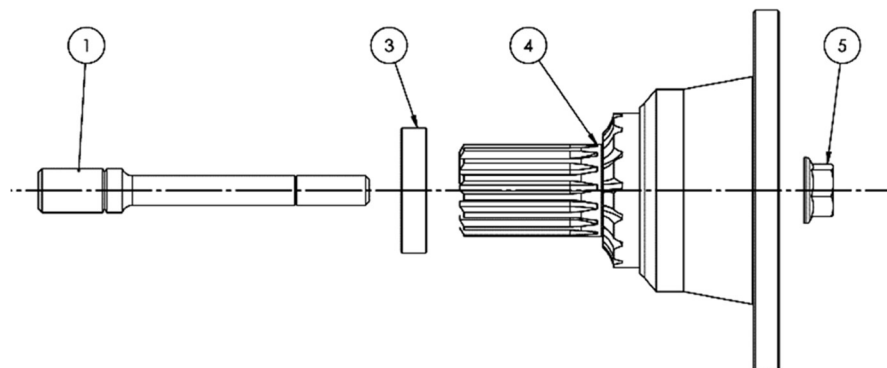

Figure 6: Installation of the 1350/1410 and 1310 series flange adapter kits to the DT12 Rear PTO.
- a. Spicer 1350/1410 Flange: A9472600317 (See Figure 6 for the dimensions)
- Spicer 1350/1410 Flange: A9472600317 (See Figure 6 for the dimensions)
See Figure 6 above for the installation of the 1350/1410 and 1310 series flange adapter kits to the DT12 Rear PTO.